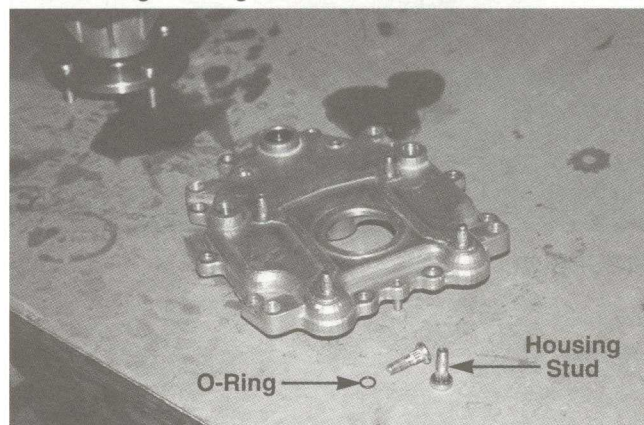

FIGURE 29.
29. There is an "O" ring on the stud and a sealing surface cut into the housing on the opposite side. If the studs are loose, but still in the housing, they can be used but cannot be allowed to fall into the housing during assembly. If the housing will not retain the studs you will need to replace the housing. See figure 29.